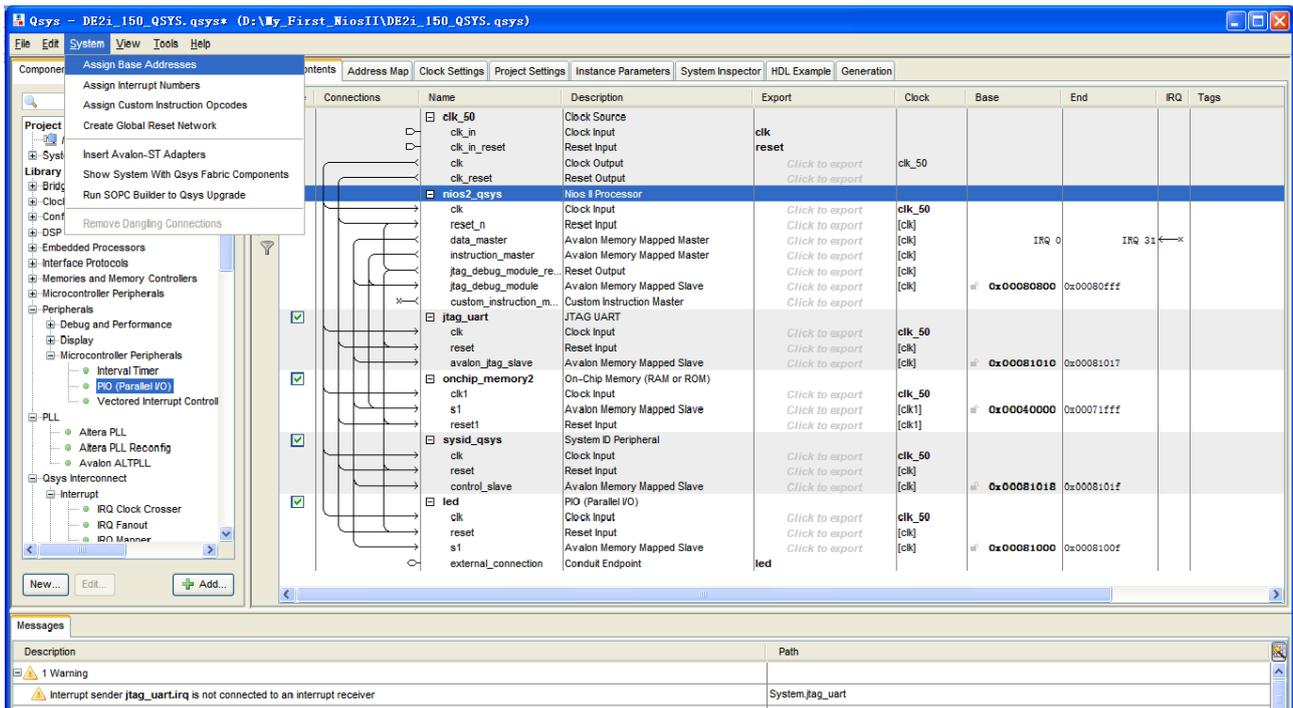
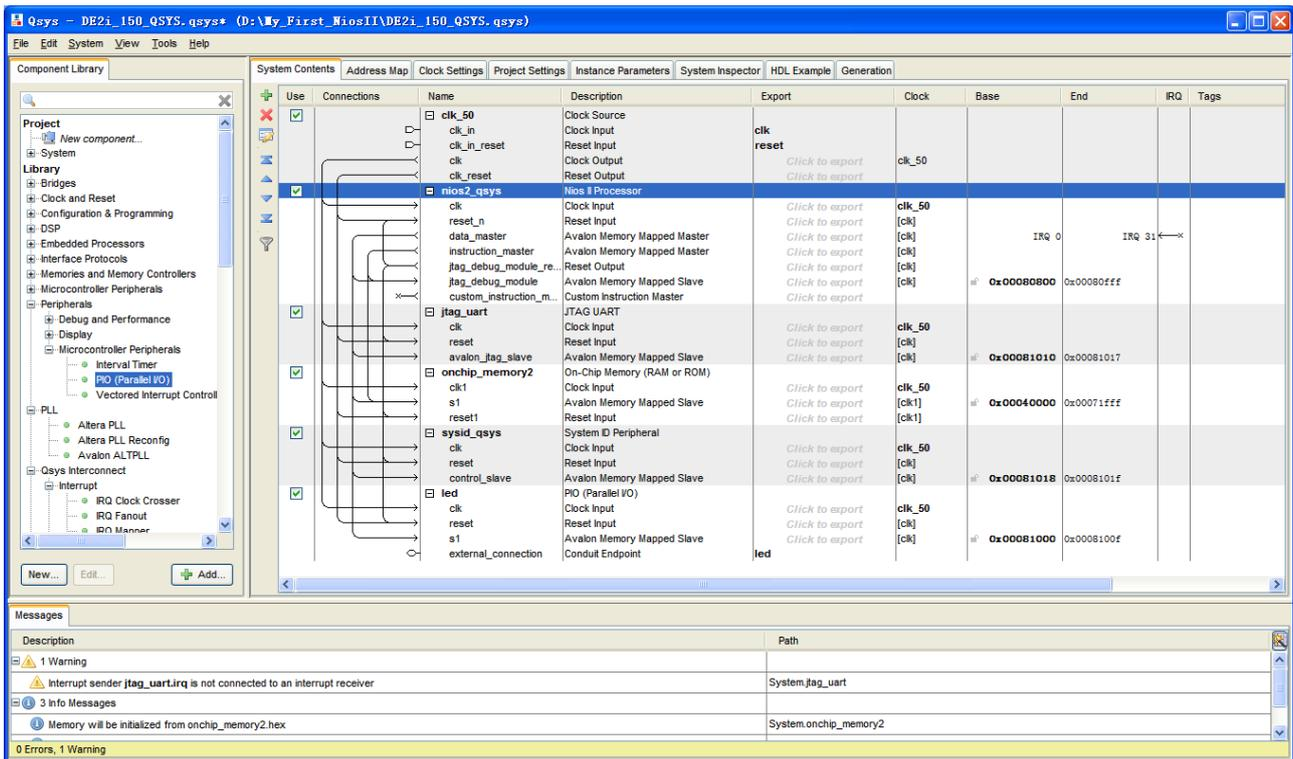

Figure 1-43 Assign Base Addresses
Figure 1-44 No Errors
28. Choose **System > Assign Base Addresses** as shown in Figure 1-43. After that, you will find that there is no error in the message window as shown in Figure 1-44.